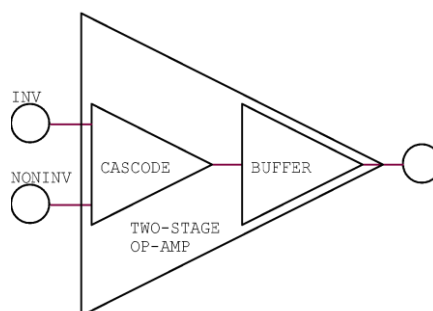

Figure 11
- 8.1. When connecting the cascode to the buffer amplifier as described above (Figure 11), which of the inputs is the *inverting input* and which is the *non-inverting input*? Explain.